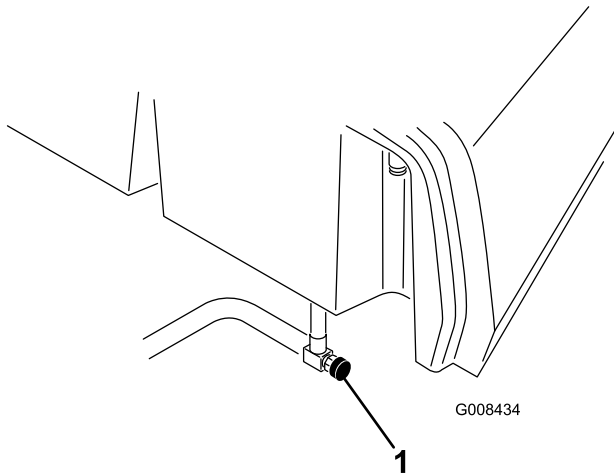

Figure 36
1. Close the fuel shutoff valve (Figure 36) below the fuel tank.